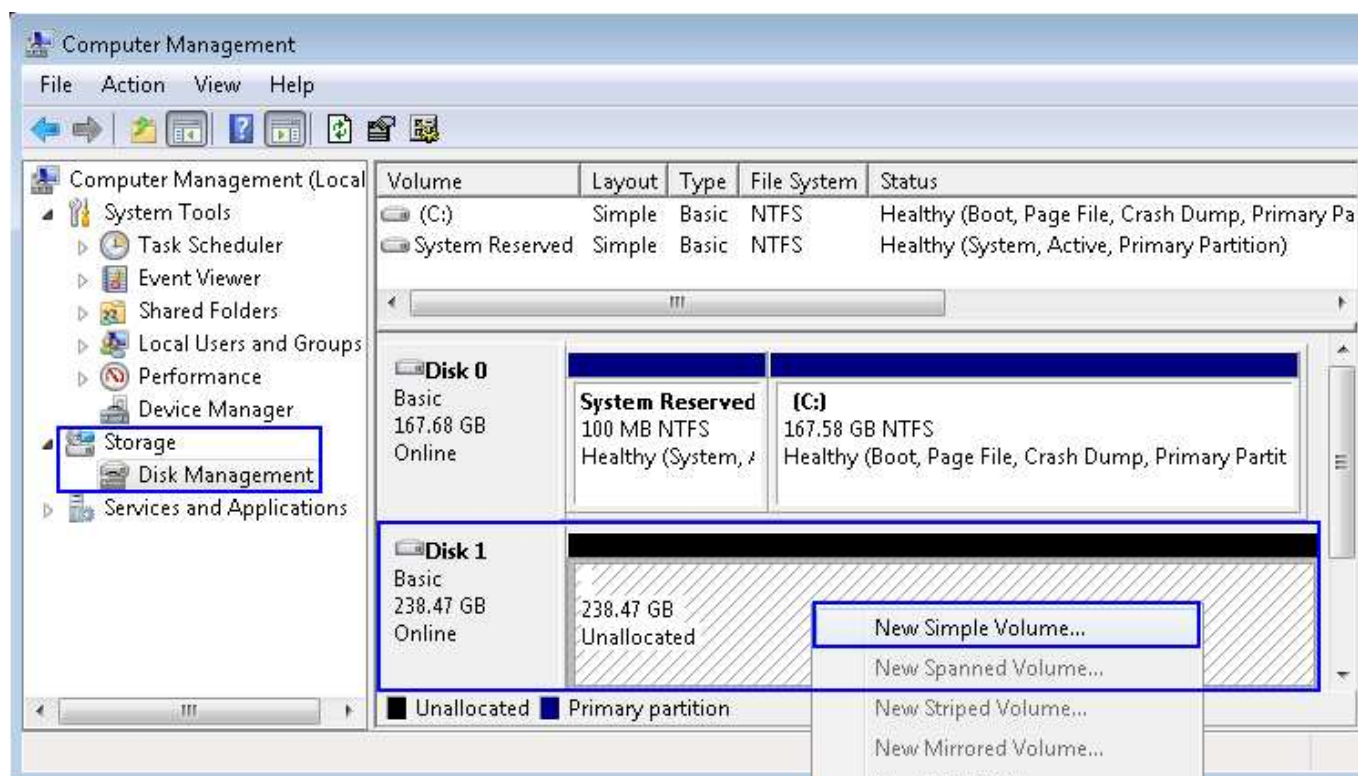

Figure 3-3 Start disk format
- In Disk Management, right-click at the new disk area and select “New Simple Volume” menu to start disk format, as shown in Figure 3-3.